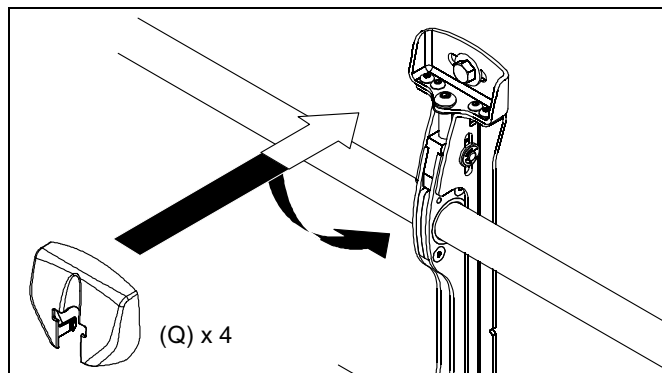

Figure 7
1. Attach wall bracket caps (Q) to top and bottom of both wall brackets. (See Figure 7)